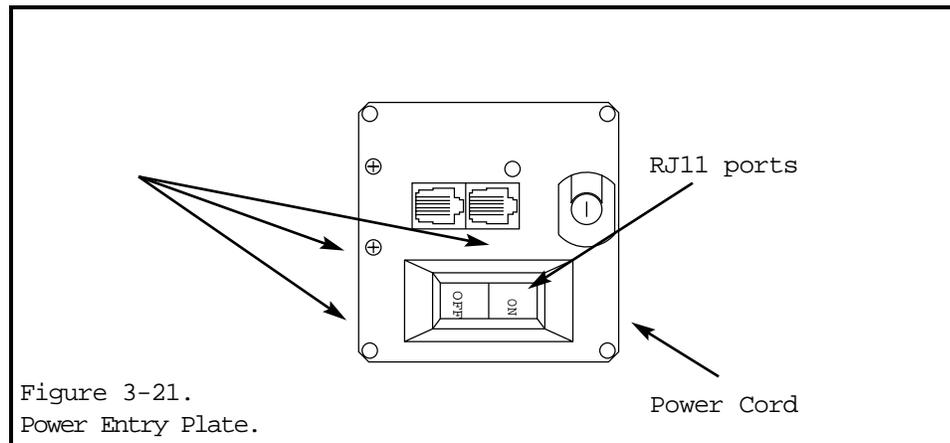

Figure 3-21.
All ALPHAVISION displays have at least one fan, while large displays will have several fans. The fan closest to the power supply will always be connected directly to the terminal block and to the thermostat. There are power wires attached directly (soldered) to the 3" fans. The 3.6" fans have no wires attached to them; instead, they are connected via a two-prong terminal and cords (see figure 3-21.)
1. Find the power entry plate located on top of the ALPHAVISION display (see figure 3-21.)
2. Use a phillips head screwdriver to remove the 3 screws that hold the serial board to the power entry plate (see figure 3-21.) Save the screws—they will be used again.
2. Attach the serial board to the power entry plate. Use a phillips head screwdriver to tighten the three screws that will hold the serial board to the power entry plate (see figure 3-21.)